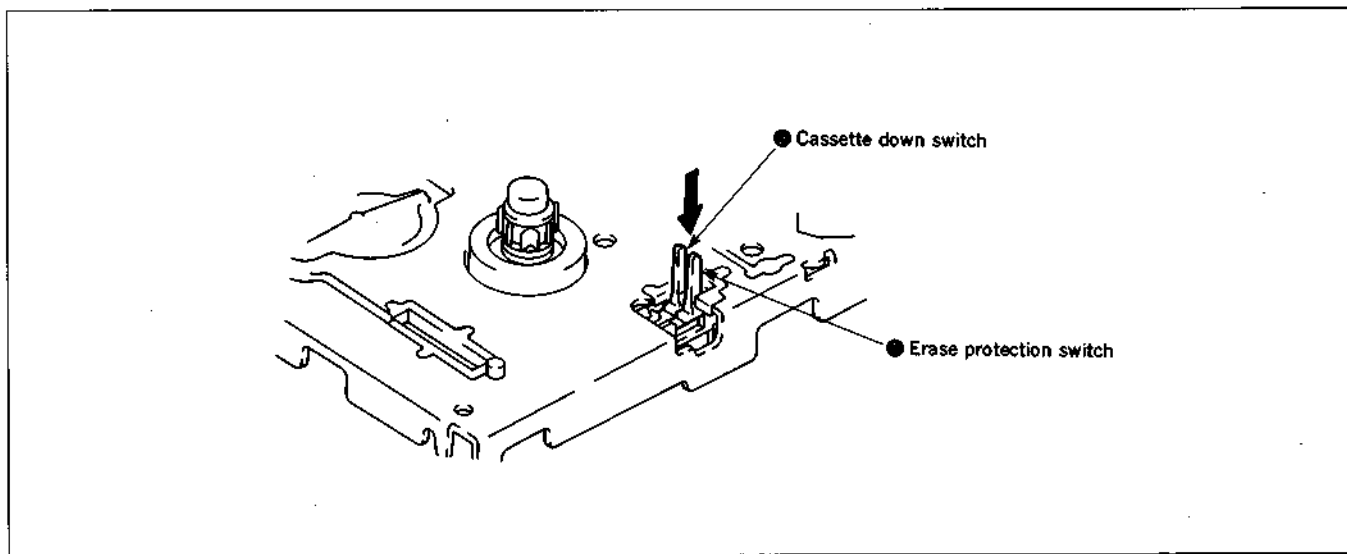

Fig. 7-1. How to complete tape threading with FL cassette compartment removed
- 1) Follow the procedure in Paragraph 7-1-1. to thread the tape. Push the erase protection switch ①. (Fig. 7-1.)